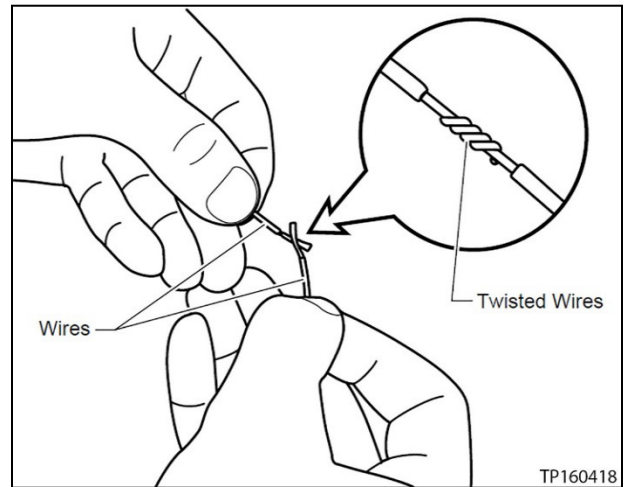

Figure 11
- Refer to Figure 11 for an example of twisting wires.